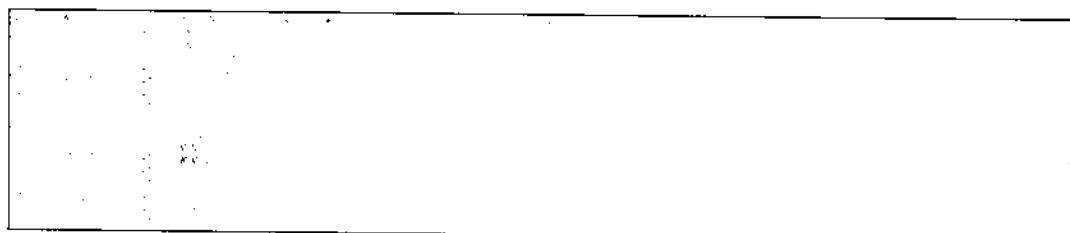
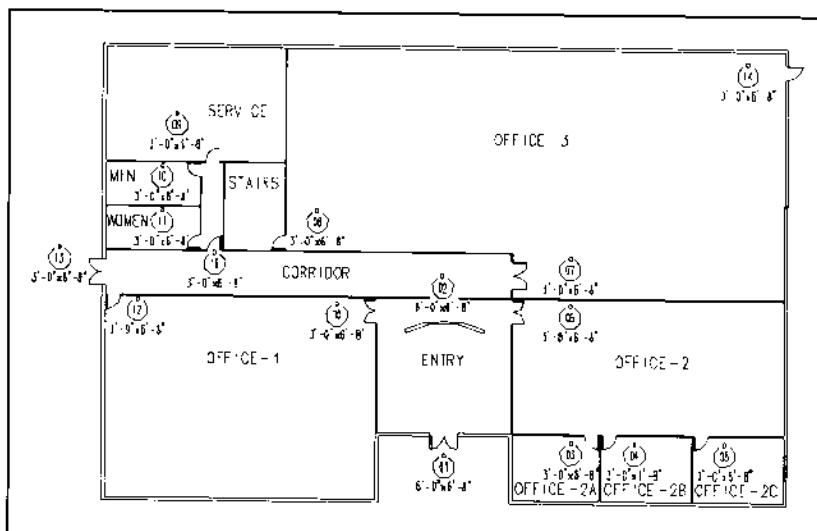
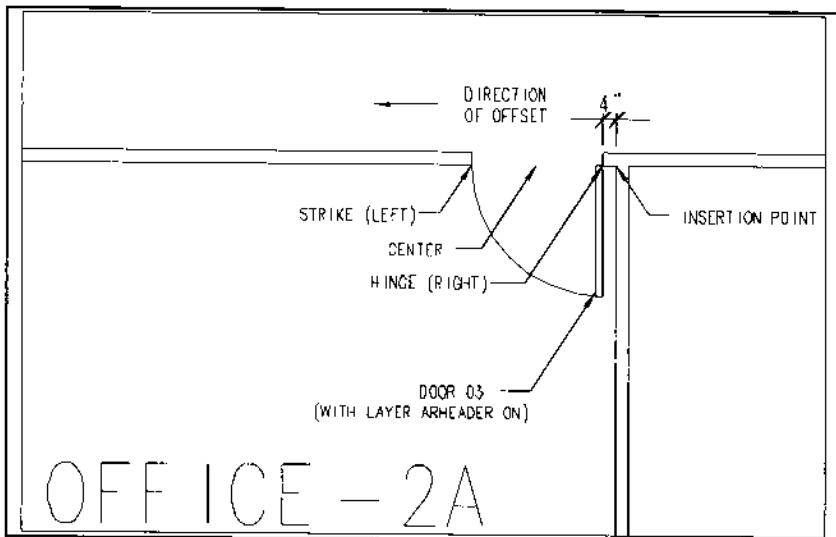

Figure 10.
Figure 11.
Figure 14.
1. A door schedule indicating the door number, size, and room name for all doors to be placed into the plan is shown in Figure 10. Figure 11 shows the same door sizes, using enlarged door tag symbols. (Door tags will be discussed in Chapter 8 – Schedules and Two-way Databases.)
2. Specify a width and height as listed in the Door Schedule, Figure 10 and shown on the Plan in Figure 11.
1. Use Figure 11 to locate OFFICE-2A and zoom into this area (adjacent to the ENTRY) as shown in Figure 14. Select a 3'-0" x 6'-8" Single-swing, Single left door from the Icon or Pull-down menu and insert into the plan.
- > Pick insertion point (NEArrest): INT of [intersection of wall as shown in Figure 14]
1. Insert the remaining doors listed in Figure 10 and shown in Figure 11.